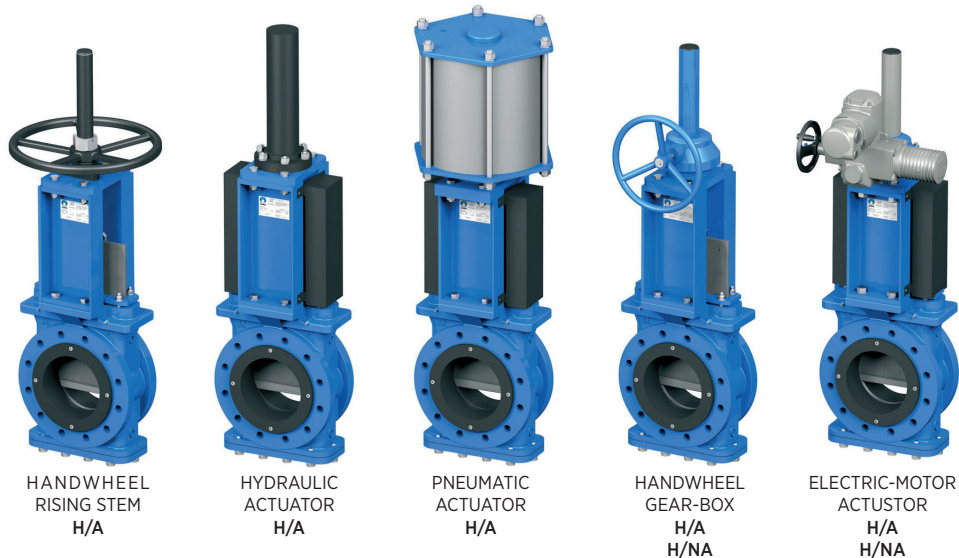

Fig. 5
- Leaning floor stand (Abb. 5)